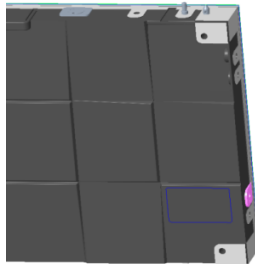
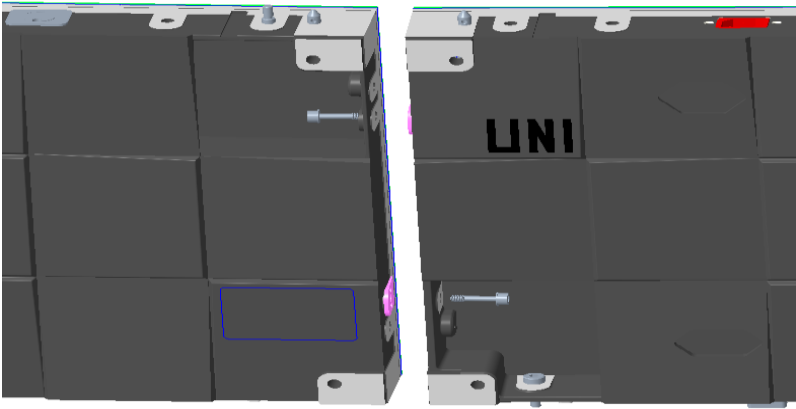

Fig 2-19 Installing angle block 2
Fig 2-20 Splicing of left and right cabinet s
- 2) Assemble the cabinet from the bottom to the top, from the middle to both sides. Fix the angle block on the screw hole on the right side of the cabinet with $\text{KM}2 \times 6$ screw, as shown in Fig. 2-19 and Fig. 2-20;